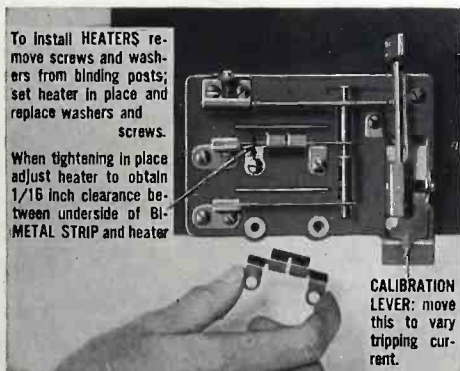

FIG. 1—TYPE TA THERMAL OVERLOAD RELAY SHOWING HOW HEATERS ARE INSTALLED
**To Mount Heaters**—To mount heaters (see Fig. 1), remove screws and washers from the heater supports. Place heater so that the U opening straddles the bimetal strip and heater lugs rest on heater supports. Replace washers and screws, and adjust heater to give  $\frac{1}{32}$ " to  $\frac{1}{16}$ " clearance between heater and bimetal. Do not bend or change position of bimetal in any way as this will alter the rating.